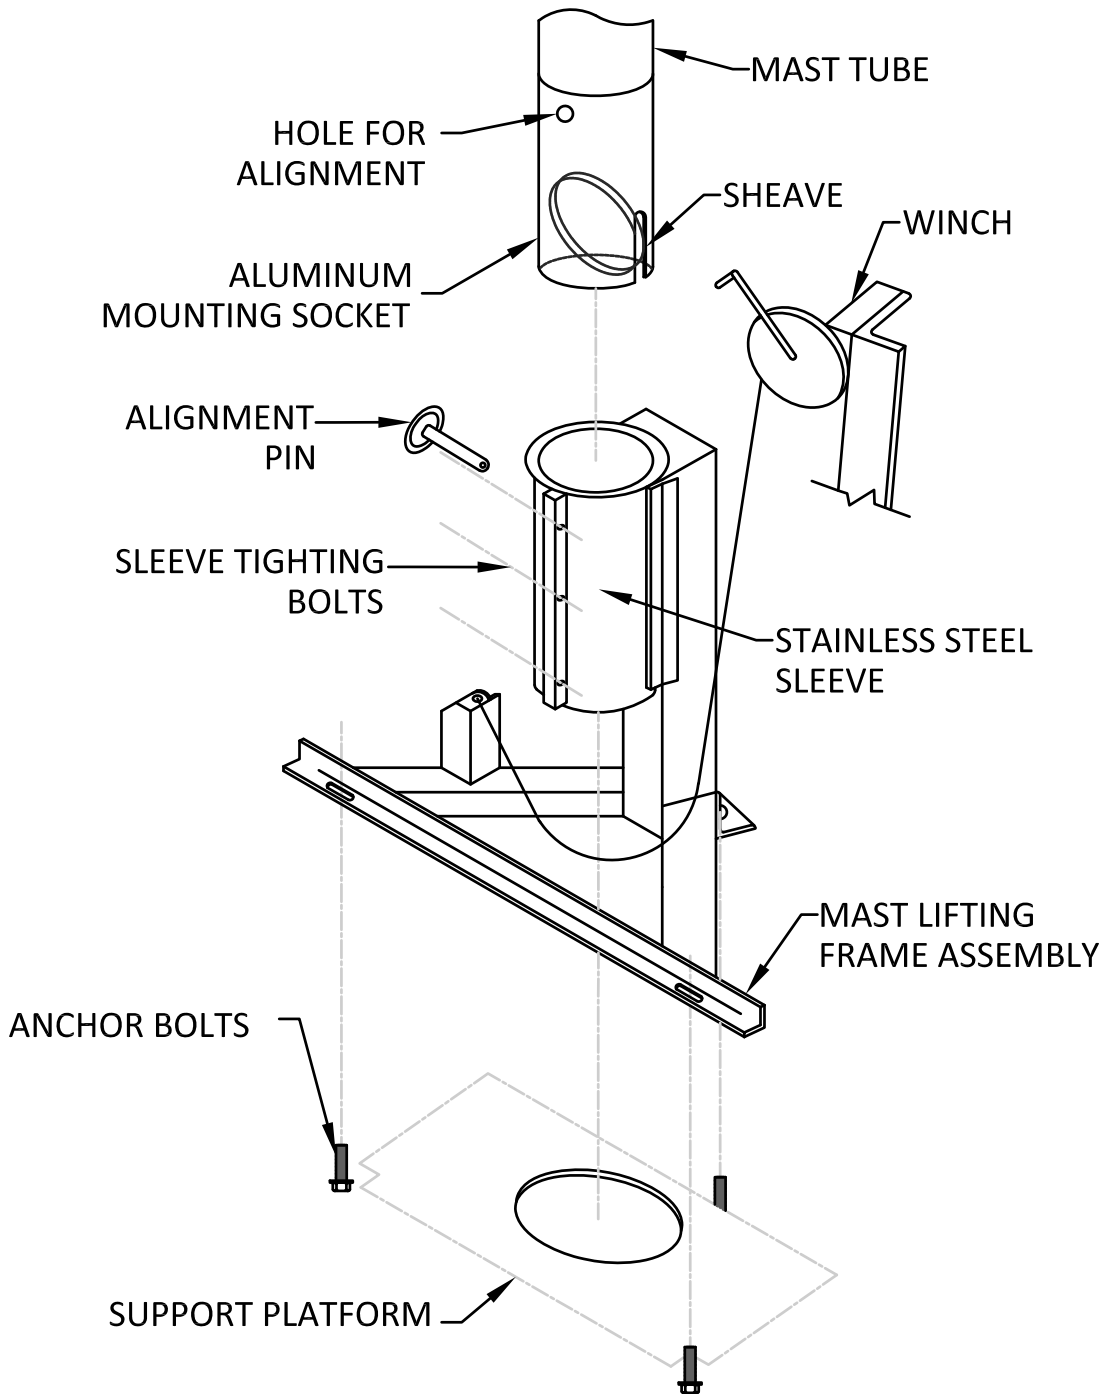

FIGURE 9-10
- A.** Mount mast lifting frame on anchor bolts located on support platform (See Fig. 9-10) and secure with three 3/4" hex nuts.
- C.** Expand stainless steel sleeve on mast lifting frame (See Fig. 9-10) by loosening the 1/2" nuts on the sleeve flange. Insert mast tube into sleeve, sheave end first, until sheave end protrudes from bottom of sleeve by about one foot. Engage winch cable to sheave and lower mast tube to its lowest point, but releasing cable from winch.